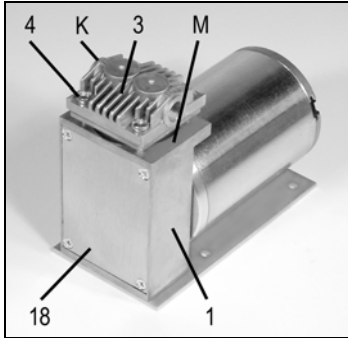
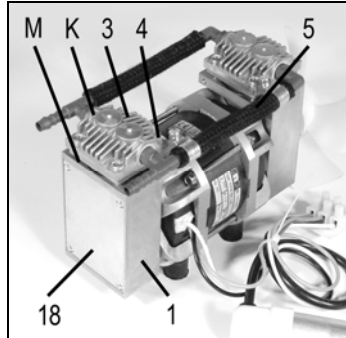

Fig. 3:
Fig. 4:
The position numbers in the following text refer to figs. 3 to 6.
2. Make a mark (**M**) on the ribbed head (**3**), intermediate plate (**2**), and housing (**1**) with a felt-tip pen (see **M** in figures 3 and 4). This helps avoid incorrect assembly later.
6. Place the "head assembly" on the pump housing (1) - as a guide to orientation see fig. 3 (single head models) or fig. 4 (twin head models). Reference point is the compression symbol (indicated with a **K** in the diagrams), or the mark (**M**).
7. Tighten the screws (4) at first lightly, then firmly by hand, in a diagonal pattern (max. tightening torque 1.5 Nm).
9. Pump model NPK 09 DC only: refit cover (18) to the housing.
If, after changing the piston seal, the pump produces no flow, check the position and orientation of gasket (6), valve plate (7), intermediate plate (2) and valve plate (8). See fig. 3,4 and 6.